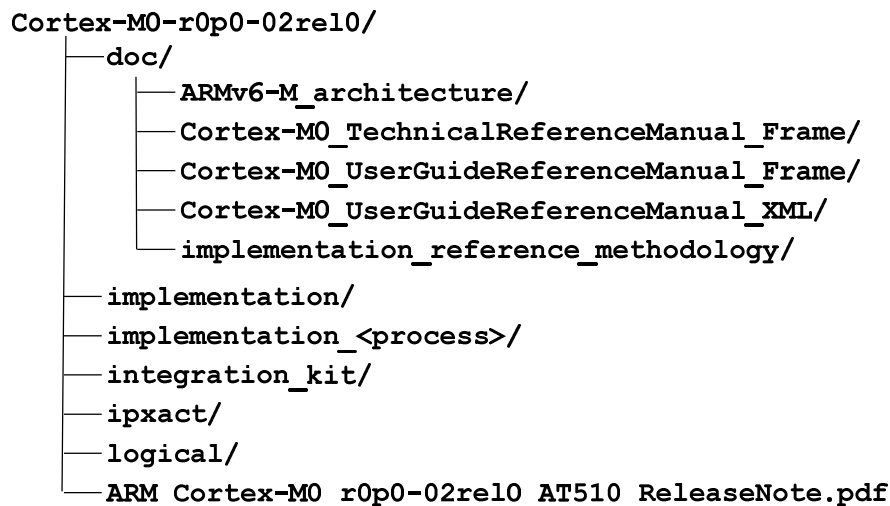

Figure 1: Cortex-M0 Development Environment Directory Structure
4. The contents of each supplied implementation -RM- deliverable must be copied into the downloaded bundle directory so that it appears at the same directory level as `logical/` (see Figure 1 on page 6). For example, using the following Unix command:
Once the deliverables have been correctly combined, the directory structure should appear as shown in Figure 1. The Cortex-M0 Integration and Implementation Manual (ref 3.1) gives more details on files and directory structure.